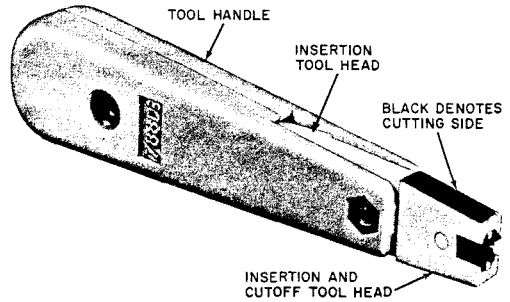

Fig. 10—1-Pair Insertion/Cutoff Tool (788D Tool)
3.03 The *788D-type (1-pair insertion/cutoff tool)* features a tool head that may be rotated to provide either insertion/cutoff or insertion only on a single conductor pair. (See Fig. 10.)